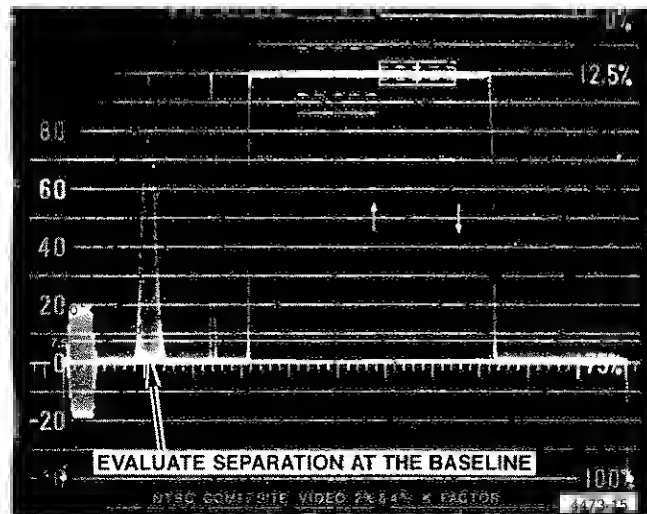

Fig. 5-4. Checking Modulated Sine-Squared pulse response.
i. Display the 12.5T Modulated Pulse from the Pulse and Bar generator with INPUT B (20T for the 1751). Check that the inputs are ac coupled (P403 and P207 must be in the lower, ac position). Position the baseline over the center 140 IRE (1 V for the 1751). See Fig. 5-4.